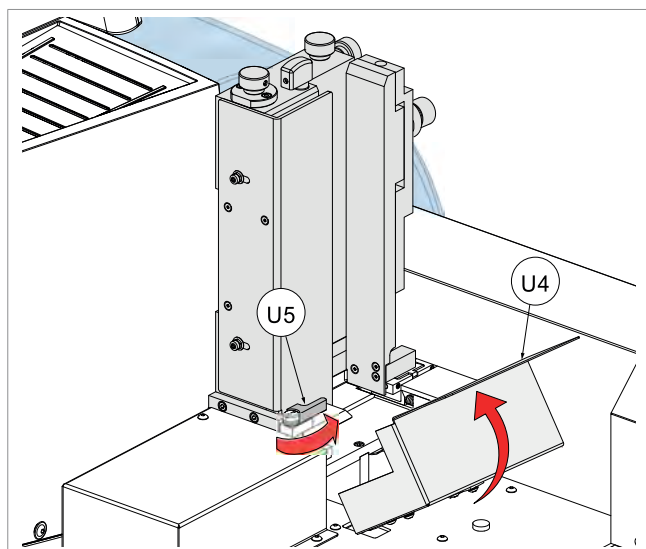

Fig. 38
- 4) Close the lever (U5) and shield (U4) (Fig. 38).